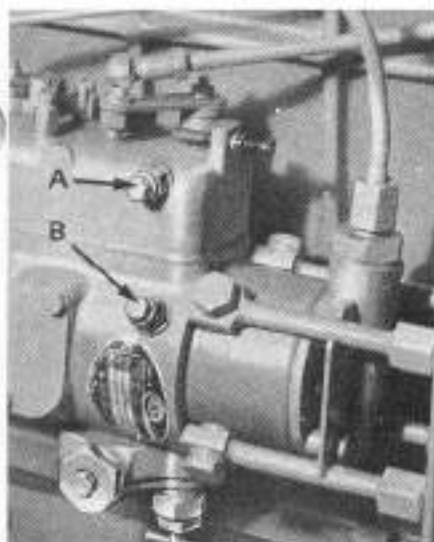

Fig. 54—Model 990 fuel injection pump bleed screws. Governor and drive component cavity is bled by plug (A); bleed plug (B) is for high pressure side of pump.
fuel flows freely with no air bubbles from the bleeder opening. Tighten the bleed screw while maintaining flow of fuel with lift pump. Refer to Fig. 54 and repeat bleeding operation, first with bleed screw (B) on pump body, then with bleed screw (A) on pump governor housing. Loosen fuel injector line connections at fuel injectors, be sure stop control is in run position and that throttle is wide open. Crank engine until fuel ejects from all fuel injector line connections, then tighten the connections. Engine is now ready to start.